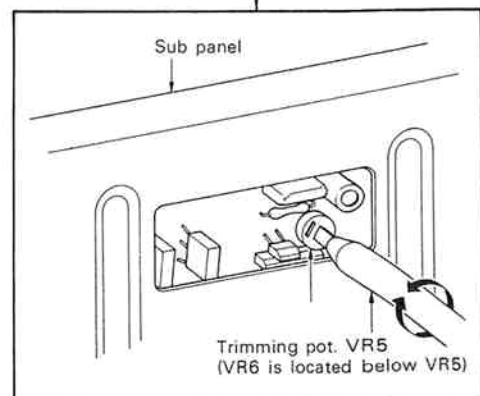

Fig. 2. Power amp offset voltage adjustment.
3. Adjust the trimming pot VR5 (VR6), as shown in figure 2, for a 0V reading of the dc voltmeter.